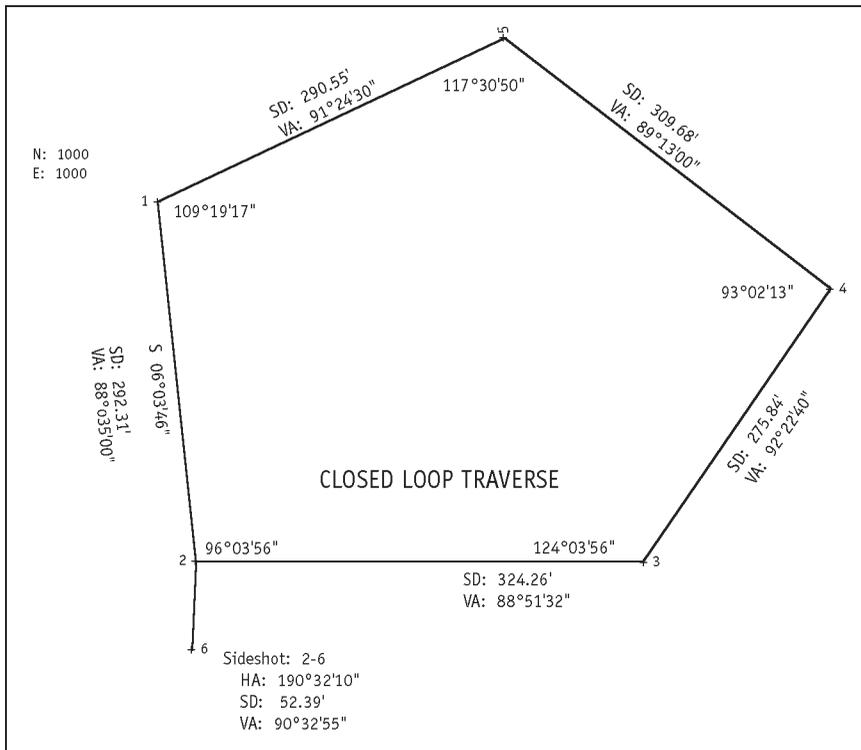

Figure 1 - Closed Loop Traverse
- 1) Closed Loop Traverse - Adjustment available. *See Figure 1.*